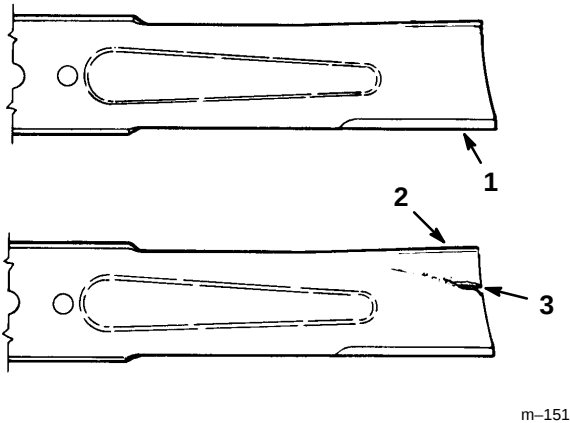

Figure 17
1. Inspect the cutting edges (Fig 17). If the edges are not sharp or have nicks, remove and sharpen the blades. Refer to Sharpening the Blades on page 39.
2. Inspect the blades, especially the curved area (Fig. 17). If you notice any damage, wear, or a slot forming in this area (item 3 in Fig. 17), immediately install a new blade.